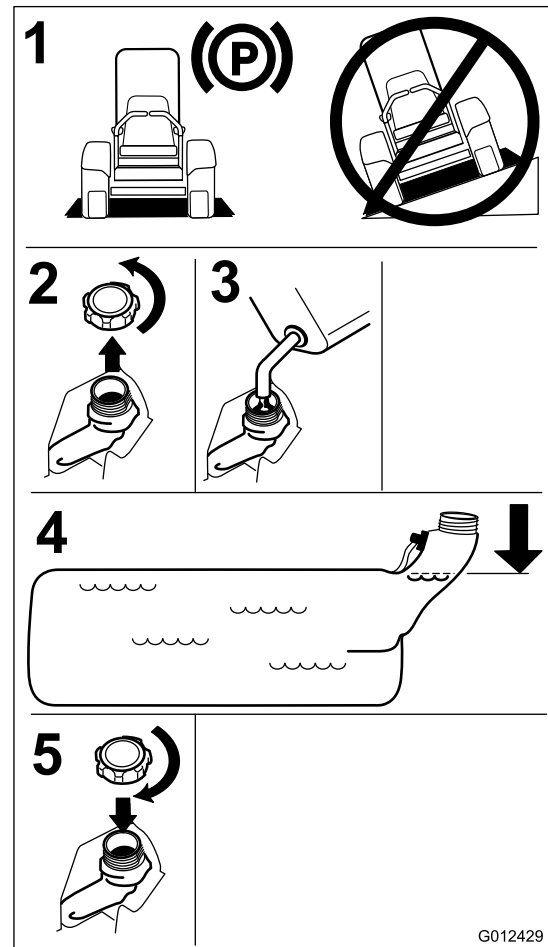

Figure 7
3. Clean around the fuel-tank cap and remove it. Add regular unleaded gasoline to the fuel tank until the level is 6 to 13 mm (1/4 to 1/2 inch) below the bottom of the filler neck. This space in the tank allows the gasoline to expand. Do not fill the fuel tank completely full; refer to (Figure 7).